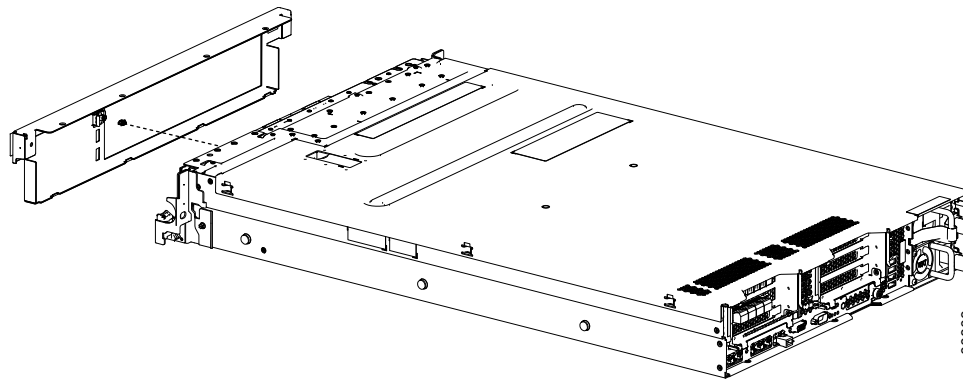

Figure 90. Removing the LED cable from the back of the bezel assembly
8. Remove the LED cable from the LED PCB on the back of the bezel assembly as shown in Figure 90.